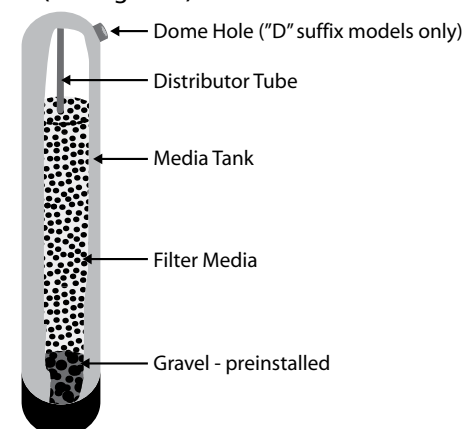

Figure 3 - Media Tank Cutaway
1. Media was shipped separately. Carefully unscrew the control valve. Be sure to "plug" the top of the distributor tube using tape or some other means. Do not allow filter media to enter inside of distributor tube (See Figure 3).